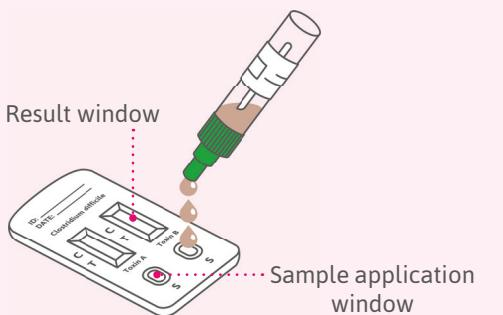

Fig. 1: Sample Application
2. Hold the sample collection tube upright and **unscrew the tip** of the sample collection tube. Invert the sample collection tube and **transfer 3 full drops of the extracted specimen** (approximately 120 µL) to the sample application window (S) of the test device, then start the timer. Avoid trapping air bubbles in the sample application window (see Fig. 1).
**Note:** If the specimen does not migrate (presence of particles), centrifuge the diluted sample contained in the sample collection tube. Collect 120 µL of supernatant and dispense into the sample application window (S) of a new test device. Start the timer and continue from step 3 of the test procedure onwards in the instructions for use.